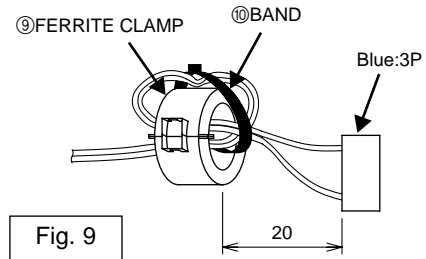

Fig. 9
- (5) Wind the drain pump wire (connector: blue, 3P) around ⑨FERRITE CLAMP once, and fix it in place with ⑩BAND. (Fig. 9)